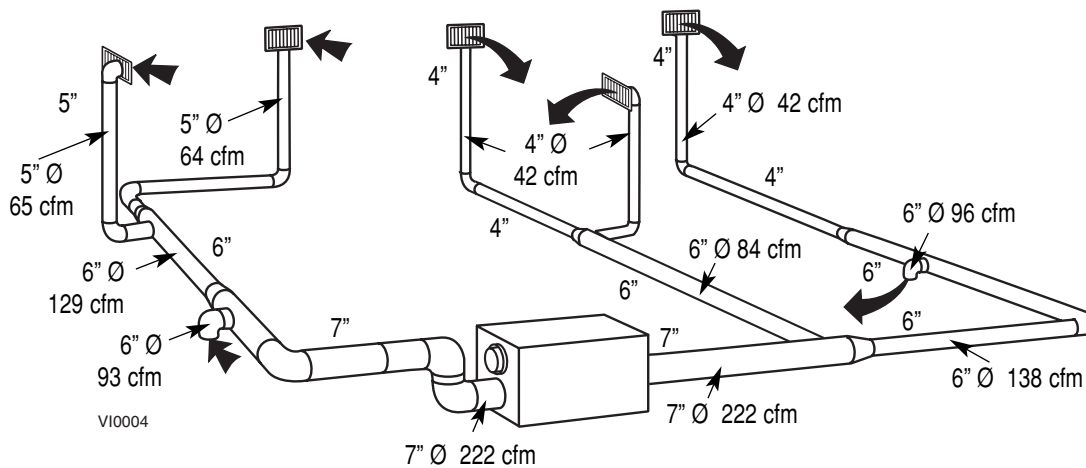

figure 9
6.4.2 Example of a design for a fully ducted system for a unit having a high speed performance of 222 cfm (See figure 9).